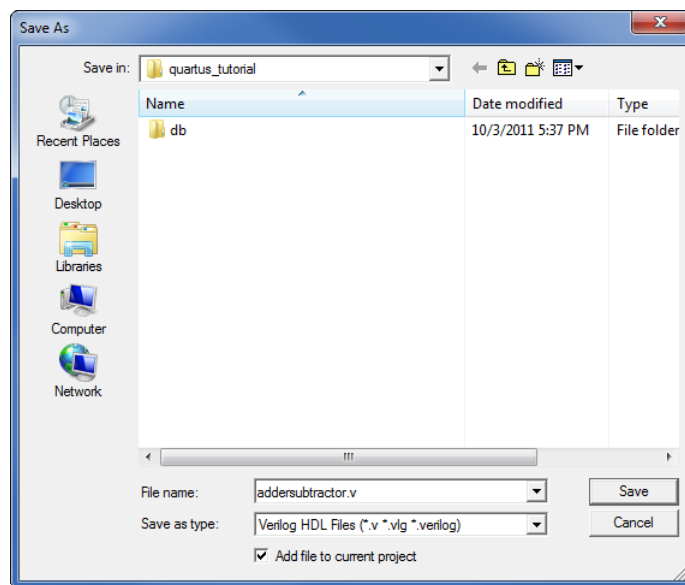

Figure 14: Name the file.
2. The first step is to specify a name for the file that will be created. Select **File > Save As** to open the pop-up box shown in Figure 14. In the field labeled **Save as type** choose **Verilog HDL File**. In the field labeled